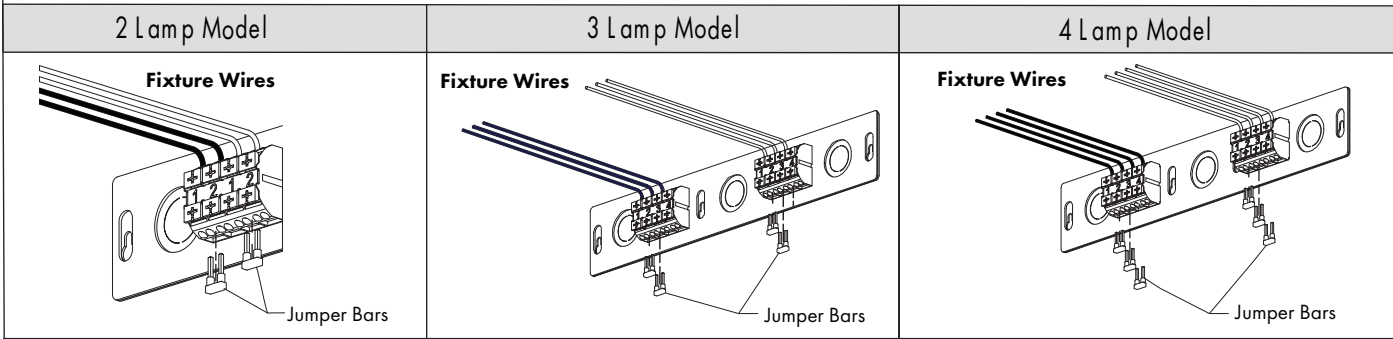

FIG 7.1 Remove Jumper Bars
1. Remove jumper bars from terminal blocks as needed for individual lamp control - FIG 7.1.